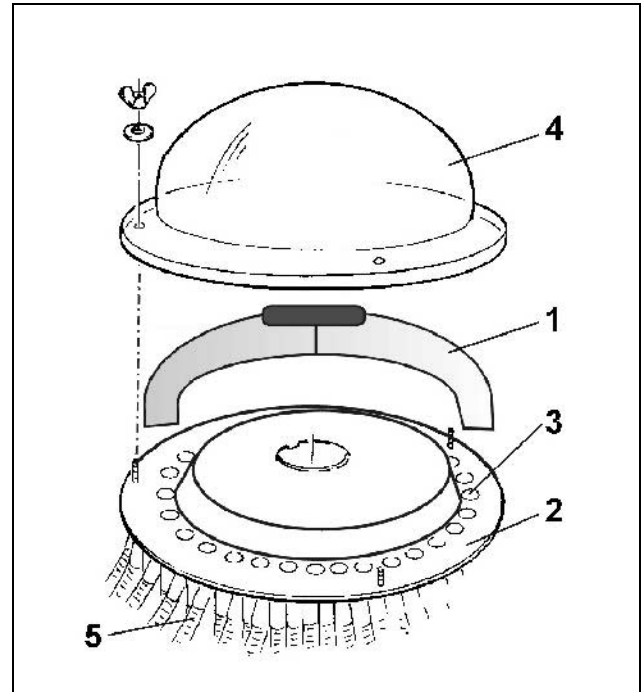
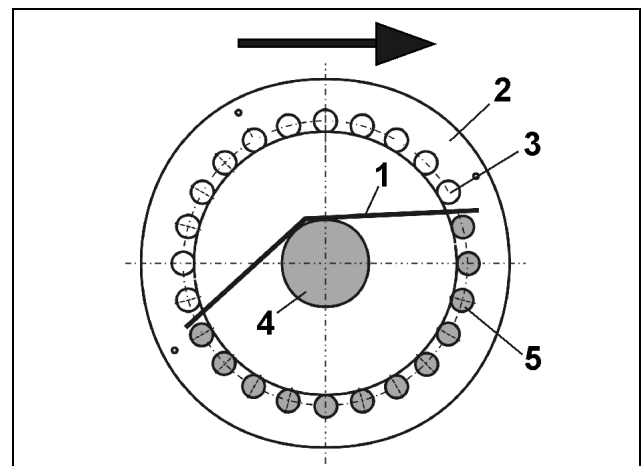

Fig. 56
Fig. 57
With the insert (Fig. 56/1) for the half-side shutting of the outlets in the distributor head the seed flow is guided to half of the outlets (Fig. 56/3) and thus to half of the coulters. This way, at random, the seed delivery to the coulters can be interrupted on the right or left hand implement side and you can sow with the other implement half.
- Remove distributor hood (Fig. 56/4).
- set the insert (Fig. 56/1 or Fig. 57/1) on to the distributor plate (Fig. 56/2 or Fig. 57/2) that the desired outlets will be shut off by the insert.
- In top view (see Fig. 57)
- shut off, not hatched outlets (Fig. 57/3) are on the side behind the corrugated tube (Fig. 57/4)
- open, hatched outlets (Fig. 57/5) are on the side in front of the corrugated tube (Fig. 57/4).
- In any case check the routing of the seed guide tubes (Fig. 56/5) to ensure that the insert shuts off the seed flow to the correct coulters.
- Mark the position of the insert with a suited pencil on the distributor plate (Fig. 57/2) so that you may quickly find the correct position of the insert on the distributor plate later on.
- Fix the distributor hood (Fig. 56/4) on the distributor head. When fixing the distributor hood the insert (Fig. 56/1) is clamped.